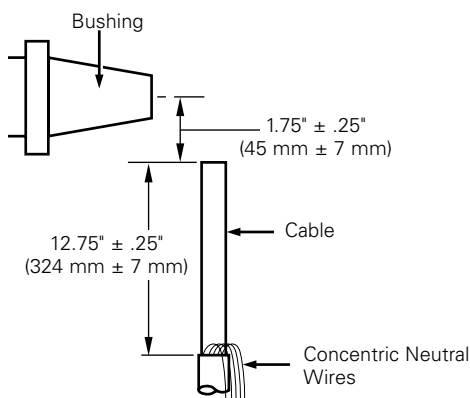

Figure 15. Line illustration of removing concentric neutral wires.
- Measure 12.75" (324 mm) from end of cable. Refer to Figure 15.
- For unjacketed neutral cable, bind neutral wires using three (3) wraps of tape at 12.75" dimension.